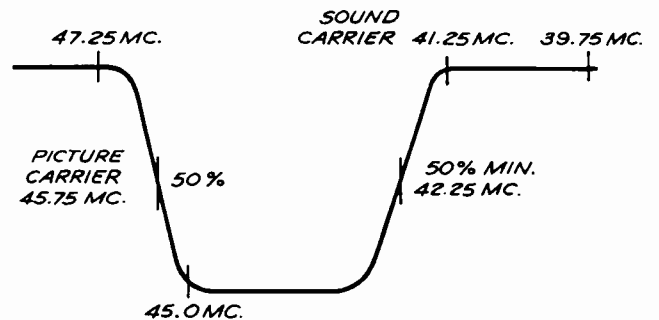

Fig. 8. I-F Response Curve
17. With signal generator loosely coupled to converter tube, adjust output to provide the markers shown on the response curve, Fig. 8. Check the position of the markers one at a time.
18. Observe the waveform obtained on the oscilloscope, and compare it with the waveform shown in Fig. 8. If the spot frequency alignment has been carefully done, the comparison will be favorable. However, slight retouching of the I-F adjustments may be required. It should not be necessary to change any adjustment appreciably. The markers should be located as follows: